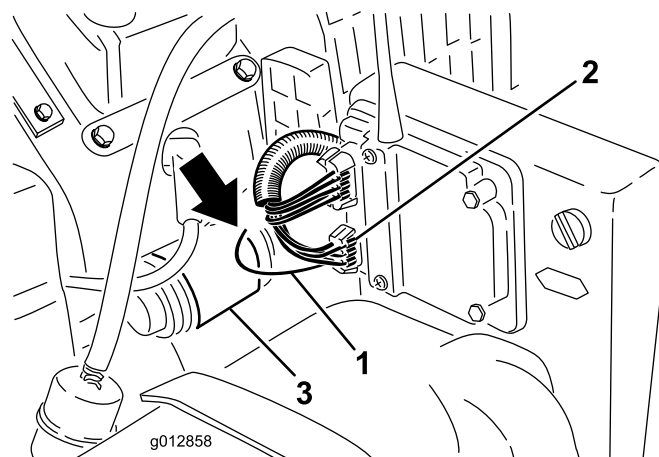

Figure 24
1. Locate the yellow with black stripe wire which is tucked into the wire harness tubing coming from the 6 pin connector at the receiver (Figure 24). Pull the wire out of the tubing.